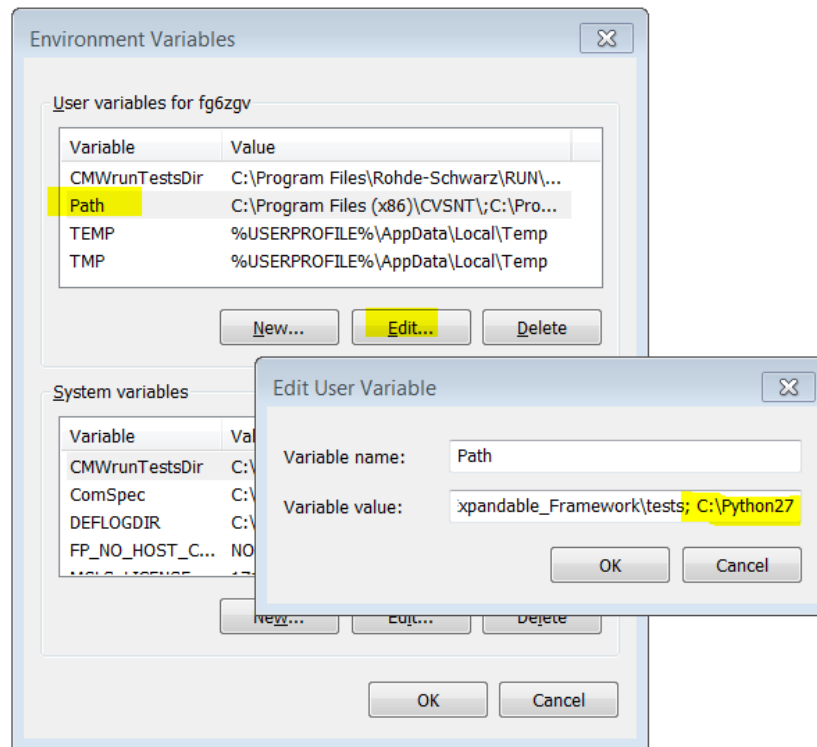

Figure 4: Adding C:\Python27 to the PATH.
- c. Make sure **C:\Python27** is added to the computer's **PATH** environment variable. See Figure 4.